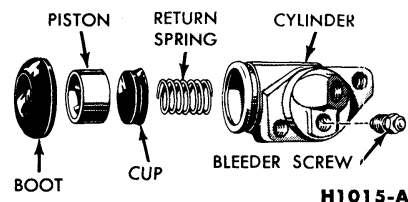

FIG. 3 Single Servo Brake Cylinder—Disassembled
1. With the wheel cylinder removed, remove the rubber boot from the end of the brake cylinder. Remove the piston, cup, and piston return spring from the cylinder (Fig. 3).
2. Install the bleeder screw (Fig. 3) in the brake cylinder.